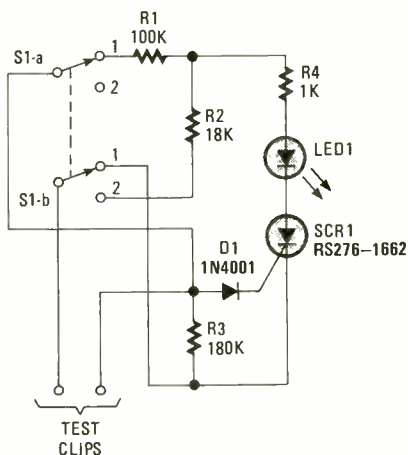

Fig. 6. This circuit can be used to test for opens in cables, bad circuit-board traces, or intermittent circuits (swingers) in security systems.
**Two-In-One.** This circuit is a combination of two circuits that used to save me many hours of work. (Refer to Fig. 6.) In